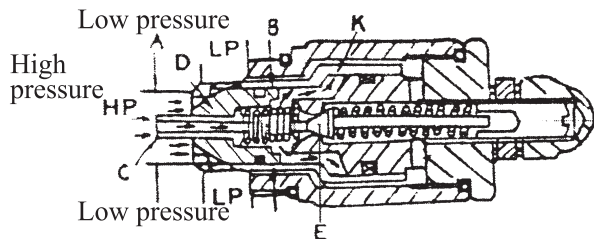

Fig. 7-7
(1) The relief valve is mounted between the cylinder port “HP” and the low-pressure passage “LP”, The oil flows through the poppet “C” and affects the two areas “A” and “B” different in diameter, so that check valve poppet “K” and the relief valve poppet “D” are securely seated. (See Fig. 7-7)